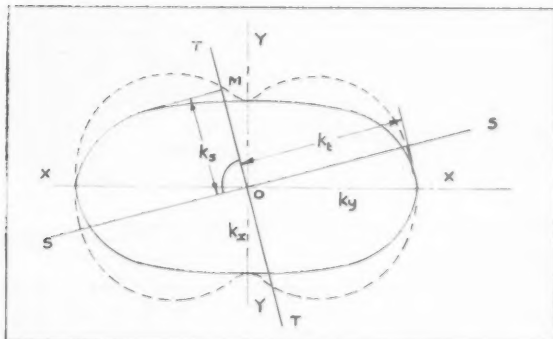
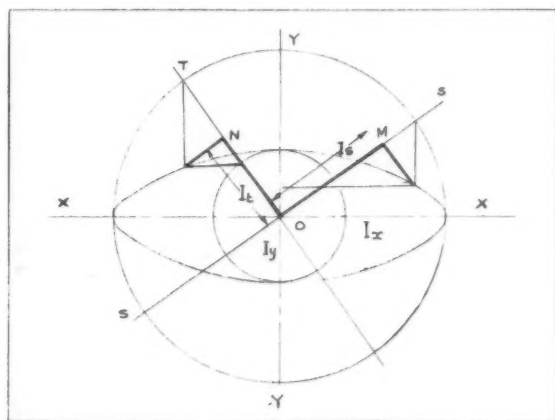

Fig. 1.—"k" ellipse
Fig. 3.—“I” or “P” ellipse
(1) Referring to Fig. 1, let  $XX$  and  $YY$  be the principal axes of the section. In the directions of these axes mark off  $k_x$  and  $k_y$  as shown, in the directions to which they refer and construct an ellipse on these axes. Now consider the auxiliary axes  $SS$  and  $TT$ . Draw tangents to the ellipse perpendicular to these axes at  $M$  and  $N$  and let the dotted line shown be the locus of such points for all positions of the axes. Then it may be shown that the radius of gyration in any particular direction is given by the appropriate distances  $OM$  or  $ON$ . It follows
(3) Referring to Fig. 3, again let the axes be taken as in Fig. 1 but in this case let the semi-axes be taken proportional to the squares of the radii of gyration (or moments of inertia). Auxiliary axes are then drawn as before. The auxiliary circles, radii  $k_x$  and  $k_y$  are drawn and right angled triangles drawn on the auxiliary axes as shown. (Actually it is advantageous to use the method of plotting the ellipse by drawing a series of these connecting triangles). Perpendiculars are then drawn at  $M$  and  $N$  and in this case the value of  $k^2$  in the direction  $OS$  is given by  $OM$ , the product quotient by the perpendicular at  $M$  and similarly for  $OT$ . The locus of  $M$ , giving  $k^2$  in any direction is a figure somewhat similar to the locus obtained in Fig. 1.
Referring to Fig. 3 it will be appreciated that considering the formulae for the deflections  $\Delta_r$  and  $\Delta_H$  given above, since the denominator  $k_x^2 k_y^2$  is constant, the